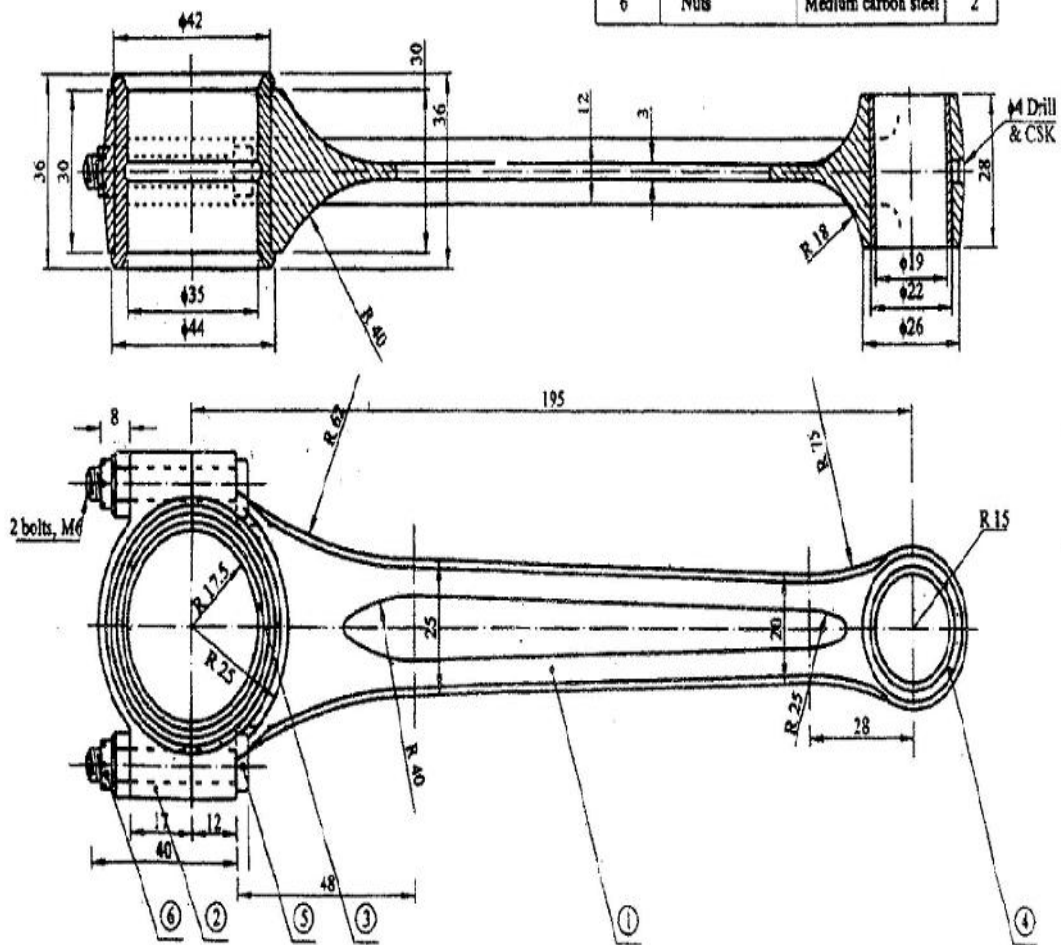

Fig. 2
- 11 From the assembly drawing of petrol engine connecting rod, shown in Fig. 2. Answer the following: